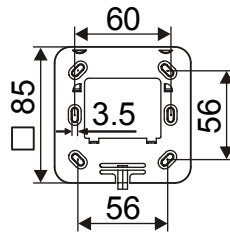

Fig. 5
2. Mount the base plate (Fig. 5) on a wall or recess-mounted socket using 2...4 screws with max. diameter 3 mm.